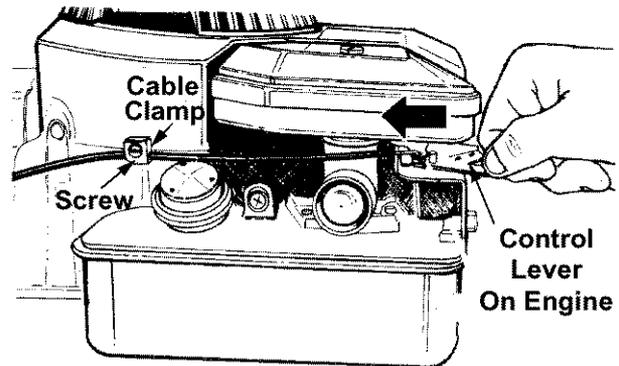

Figure 14
- Remove the screw shown in Figure 14. Remove the cable clamp from the cable.